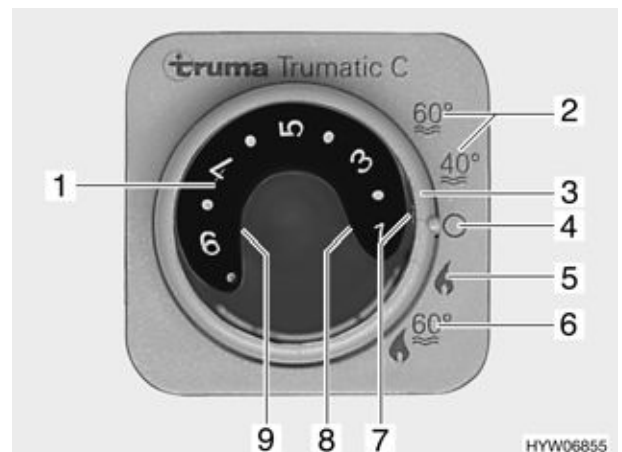

Fig. 134 Operating unit for heater/boiler
- Set the operating mode using the rotary switch (Fig. 134,3):
- Summer operation "40 °C" or "60 °C" (Fig. 134,2)
- Winter operation "Heater without Boiler" (Fig. 134,5)
- Winter operation "Heater and Boiler" (Fig. 134,6)
- Off (Fig. 134,4)
The heater selects the necessary burner setting according to the required room temperature. When the required room temperature is reached, the burner is switched off. In "Heater and Boiler" operating mode (Fig. 134,6) water in the boiler is also heated. In the operating mode "Heater without Boiler" (Fig. 134,5) the heater can be operated with an empty boiler.
- Turn temperature control knob (Fig. 134,1) on the operating unit to the required room temperature.
- Set rotary switch (Fig. 134,3) to winter operation "Heater without boiler" or to winter operation "Heater and boiler".
Green indicator lamp (Fig. 134,7) comes on.
- Set rotary switch (Fig. 134,3) to "Off" (Fig. 134,4).
The voltage supply for the heater/boiler and the safety/drainage valve cannot be interrupted by the 12 V main switch. When there is a fault, the red indicator lamp (Fig. 134,8) on the operating unit for Trumatic C heater/boiler lights up (see chapter 14).